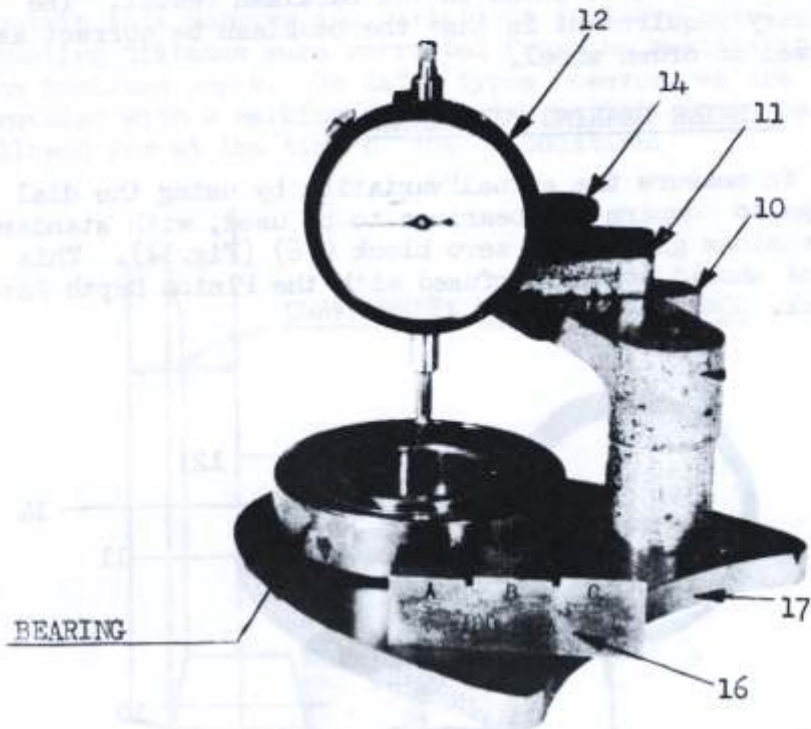

Fig.18 MEASURING THE BEARING THICKNESS.
NOTE: that the bearing is placed over the recess in the Surface Plate (17) (Fig.18) and it is essential that the bearing be placed the correct way up during this operation. The word "thrust" which appears on the outer race must rest on the Surface Plate and the dial gauge reading should be taken on the inner race as shown and fingers should be applied to the inner race to offset any tendency to cocking.